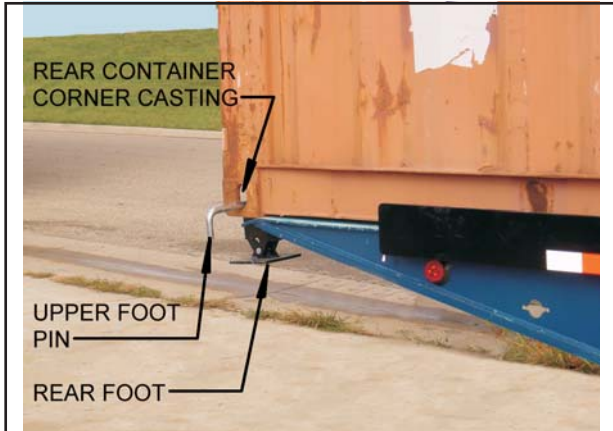

Figure 3-8 Loaded Container w/ Rear Foot
- f. After feet are installed, the container can be pulled up to stops (**See Figure 3-8**).